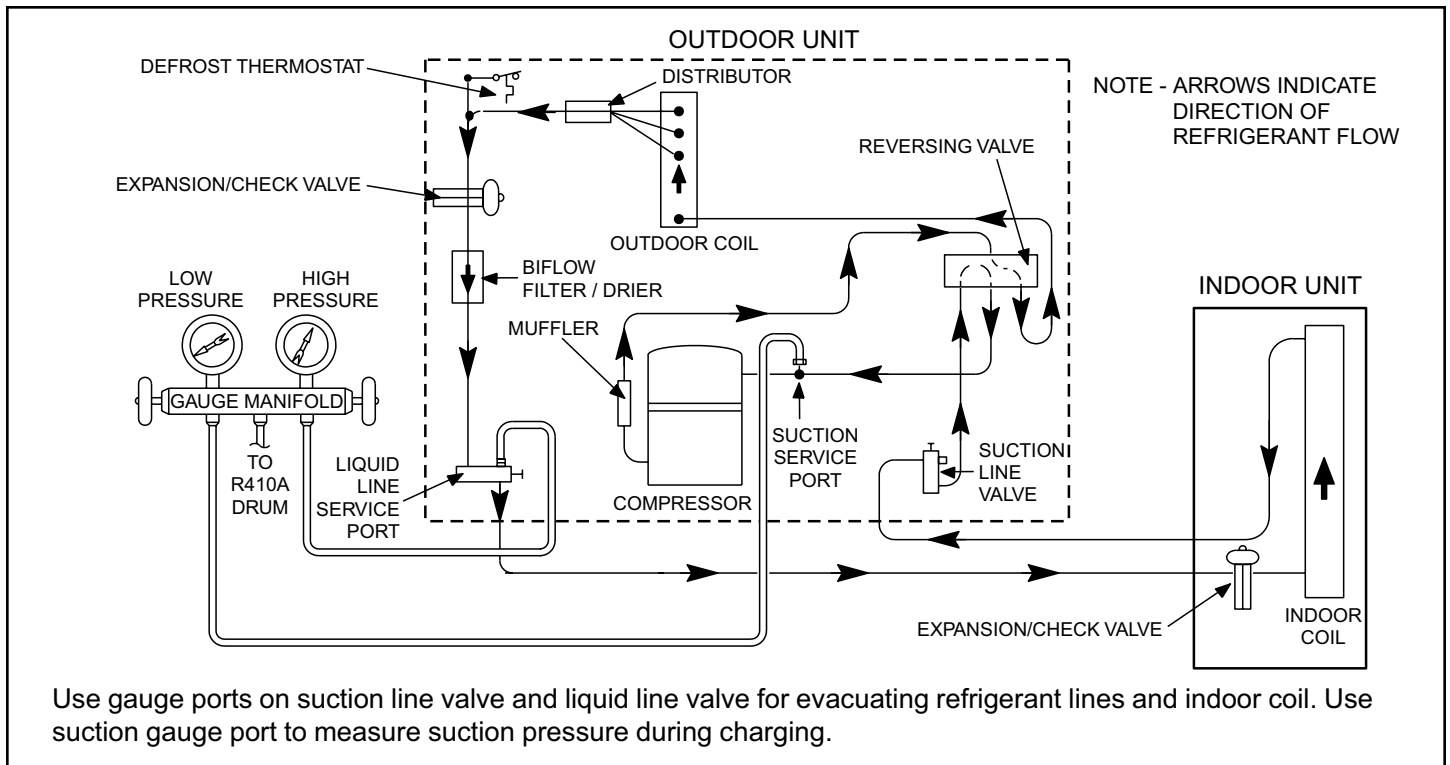

Figure 12. Cooling Cycle
1. Connect the manifold gauge set to the service valve ports as follows (see Figure 12):